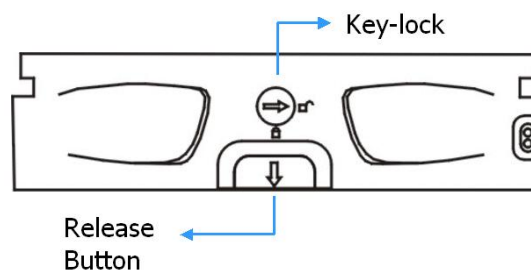

Figure 5-12: Front View of an Individual Drive Tray
Step 2. **Open the front flap:** Once the drive tray has been identified, push the release button at the drive bezel. (See **Figure 5-12**) The front bezel will automatically be lifted and the drive tray should be easily dislodged from the chassis.